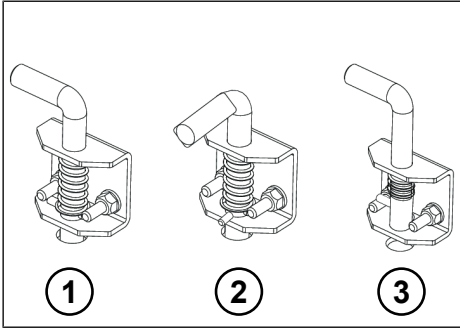

Fig. 8-65: Locking positions for retainer bolts
- ▶ Move the retainer bolt on the transverse beam to Position 2 (see "Fig. 8-65: Locking positions for retainer bolts", pg. 162).
- ▶ Move the retainer bolts to Position 1 (see "Fig. 8-65: Locking positions for retainer bolts", pg. 162).
- ▶ Move the retainer bolts for the posts on the transverse beam to Position 2 (see "Fig. 8-65: Locking positions for retainer bolts", pg. 162).
- ▶ Move the retainer bolts for the posts to Position 3 (see "Fig. 8-65: Locking positions for retainer bolts", pg. 162) so that the posts are seated in the transverse beam up to the stop.
- ▶ Move the retainer bolts for the posts to Position 1 (see "Fig. 8-65: Locking positions for retainer bolts", pg. 162).
- ▶ Move the retainer bolts for the posts to Position 3 (see "Fig. 8-65: Locking positions for retainer bolts", pg. 162).
- ▶ Move both retainer bolts on the transverse beam to Position 3 (see "Fig. 8-65: Locking positions for retainer bolts", pg. 162).